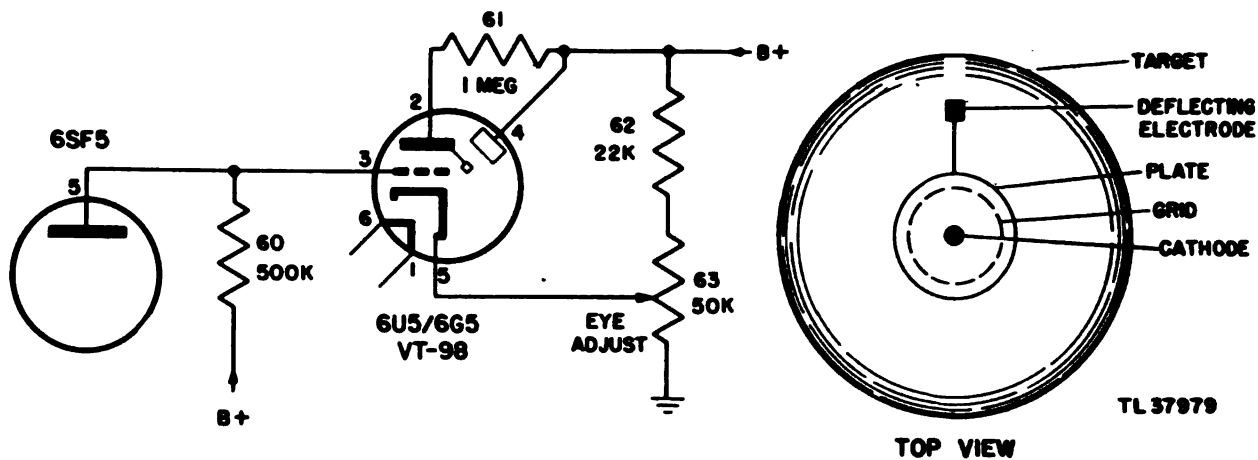

Figure 70. Tuning indicator, partial schematic.
a. GENERAL. It has been pointed out that the plate voltage of the d-c amplifier is tied directly to the grid of the tuning indicator tube (6U5/6G5). This tube, however, is kept from drawing excessive current because the cathode is kept at a high positive potential. When the cavity resonator is at resonance a high current flows through the d-c amplifier. This causes a large drop across resistor 60 (the d-c amplifier load resistor), thus making the voltage on the plate less positive. This, in turn, makes the voltage on the grid of the tuning indicator less positive and tends to cut down the flow of current through the tuning indicator tube. (See fig. 70.)